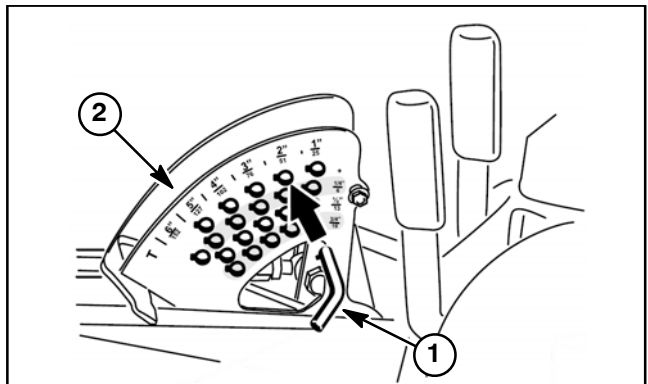
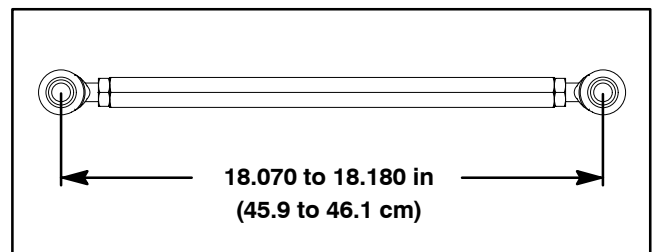

Figure 22
Figure 26
2. Note location of HOC pin in HOC bracket for assembly purposes (Fig. 22). Remove HOC pin from HOC bracket.
B. If ball joints were removed from link (item 13), install ball joints equally on both ends of link. Adjust center to center length of link assembly from **18.070” to 18.180” (45.9 to 46.1 cm)** (Fig. 26). Tighten jam nuts to secure ball joints to link. Make sure that ball joints stay inline when tightening jam nuts.
**NOTE:** When properly installed, flange nuts (item 23) should have flange surface against lift arm and not against chain.
C. If cap screw (item 20) was removed from chain (item 22), insert screw into upper link of chain and thread flange nut (item 23) onto screw with flange away from link. Torque flange nut to **50 ft-lb (67 N-m)**. When fastening chain to front lift arm, torque second flange nut to **50 ft-lb (67 N-m)**. When installing chain to rear lift arm, torque cap screw to **50 ft-lb (67 N-m)**.
4. Start engine and fully raise cutting deck. Stop engine and remove key from the ignition switch. Install HOC pin into HOC bracket to allow desired height-of-cut (Fig. 22).